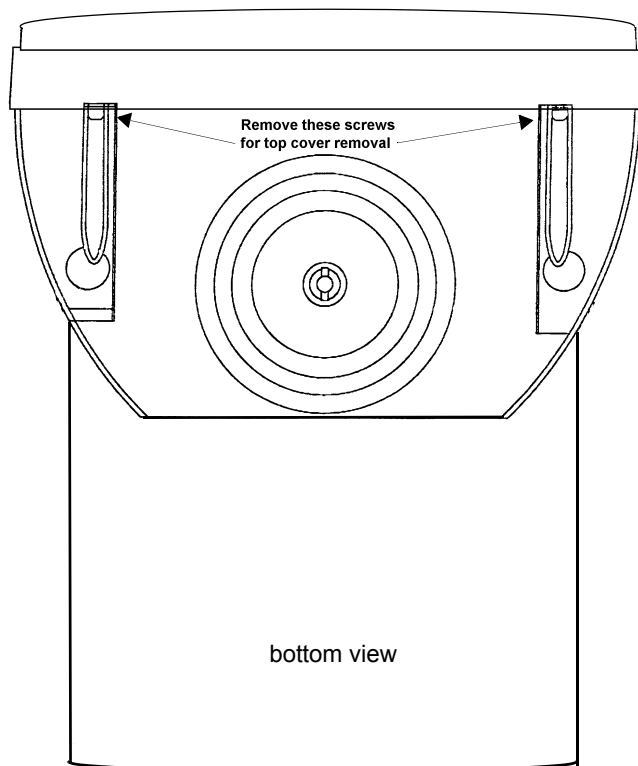

Figure 4-2: Location of screw
2. Refer to *Figure 4-2* for the location of two screws on the bottom of the display.